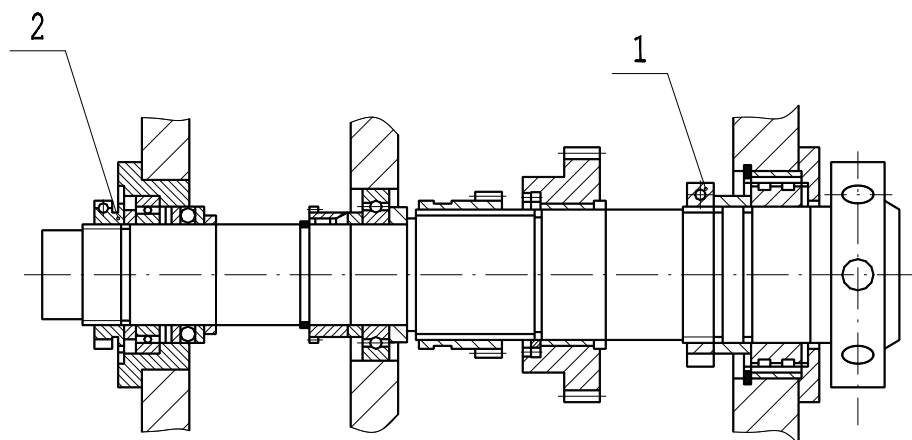

Fig.12 Spindle Structure
Excessive clearance in spindle bearings directly effects turning accuracy. The rotating accuracy of the spindle includes two kinds, i.e. run-out and axial slip of it. Run-out of the spindle is guaranteed by two double row roller bearings at the front of spindle while axial slip by single row ball thrust bearing at the rear of spindle. Check method is according to items 5 and 8 in the TEST CERTIFICATE. If the readings exceed the permissible error, in most cases, it is enough to adjust two bearing only. The adjusting method is as follows: Loosen the locking screw on the nut 1(Fig. 12) or the nut 2. After adjustment retighten the locking screws. In case of failure after several trails, adjust rear bearing by the same method as described above. After that, run the spindle idle at high speed for an hour and observe the bearing temperature should not exceed 70° C. If it is exceed, first loosen lock the screws on set nuts (2) and 1, then the nuts (2) and (1) should slight loosened, after the adjustment, retighten the lock screws.